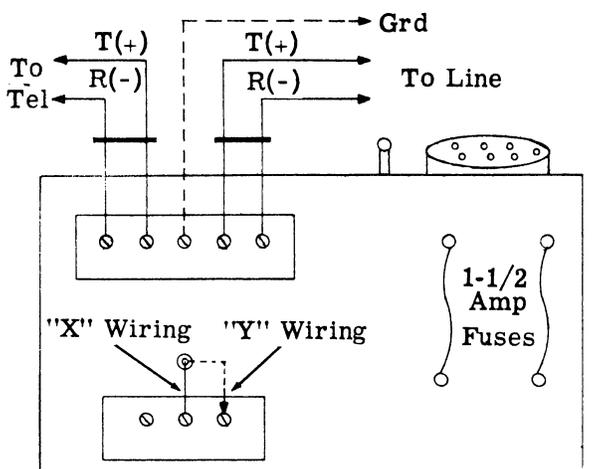

Fig. 3. Illustration of Wiring Connections.
3.01 Connections to the line and to the telephone are shown in Fig. 3.